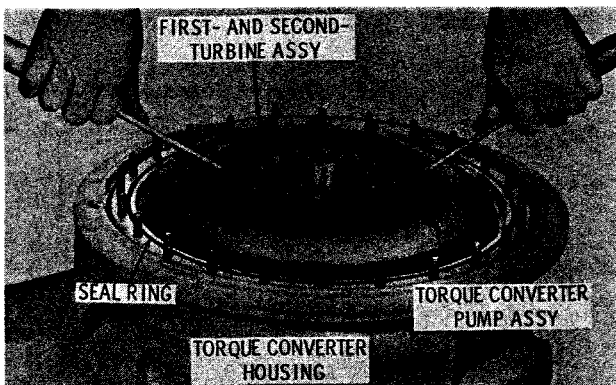

Fig. 5-10. Removing first- and second-turbine assembly
(1) Using two screwdrivers, and lifting straight upward, remove the first- and second-turbine assembly (fig. 5-10). Do not disassemble this unit unless inspection or parts replacement is necessary. If necessary, refer to paragraph 6-6 for turbine assembly rebuild instructions. Remove the sealing, if present, from the converter pump.